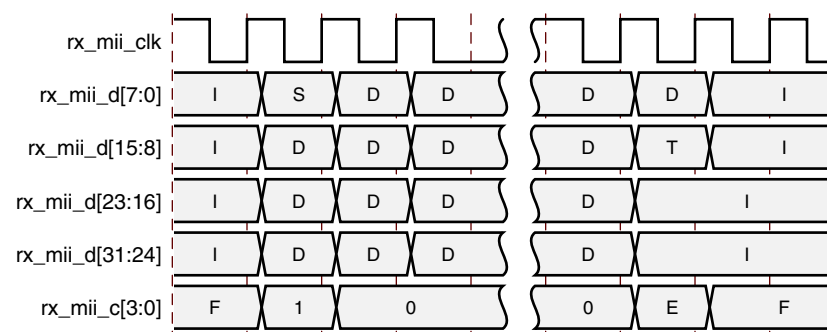

Figure 2-14: Frame Reception Across the Internal 32-Bit Client Interface
The timing of a normal inbound frame transfer is shown in Figure 2-14. As in the transmit case, the frame is delimited by a Start character (S) and by a Terminate character (T). The Start character in this implementation can occur only on lane 0. The Terminate character, T, can occur in any lane.